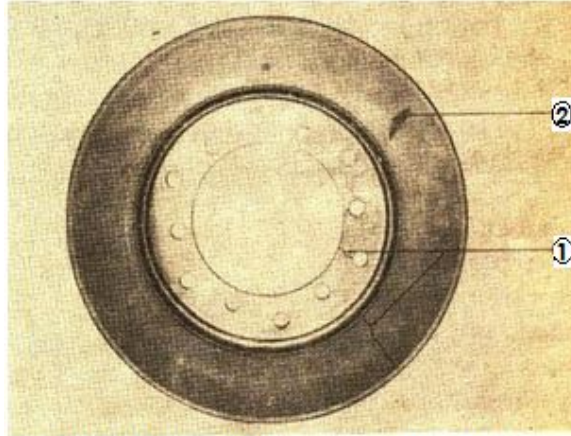

Fig.1-21. Inspect the viscous damper
- a. Check the damper for defects as in 1 & 2 Fig. 1-21. Discard if these defects show up.